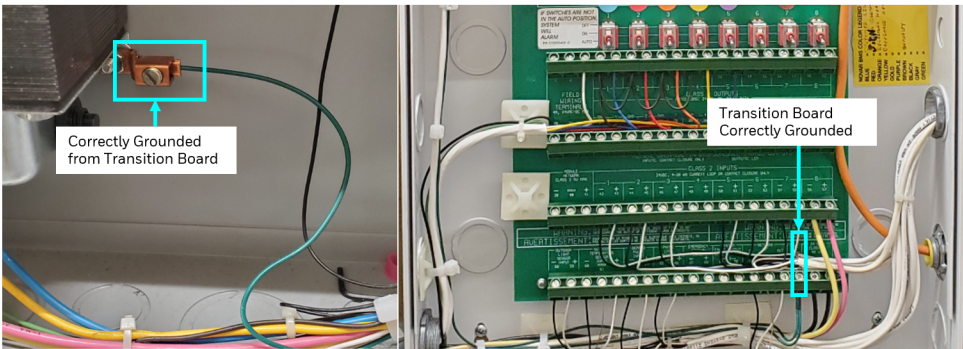

Fig. 8. Comm Ports 2, 4 grounded.
5. If the shield is to be earth grounded, tie the shield terminal to ground at the xcm.10S for Novar ES3.S and see Fig. 7 and Fig. 8 for grounding.
- Even when Comm Ports 2 and 4 are internally connected, grounding on the transition board needs to be done as shown in Fig 8.